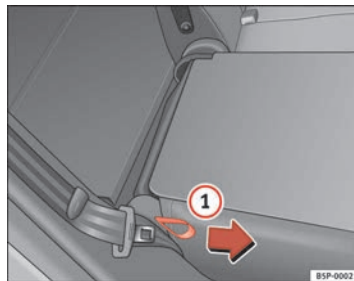

Fig. 100 Folding or opening the front seat backrests
- Pull the loop on the side of the seat ⇒ fig. 100 ① in the direction of the arrow and lift the seat backrest into position.